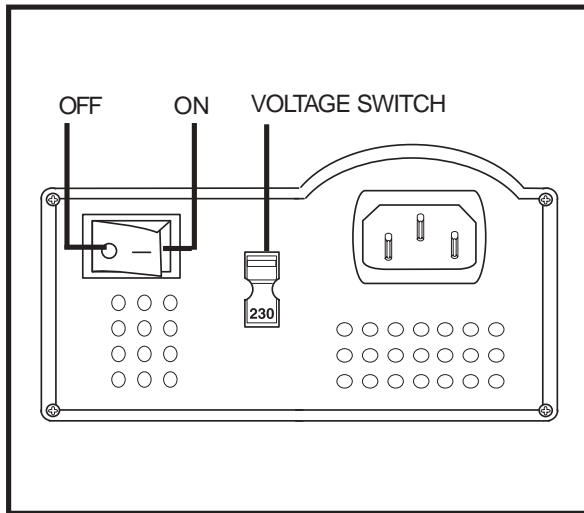

Figure 12. Charger On/Off and Voltage Switches
The off-board charger supplied with your scooter is equipped with a 115/230 voltage switch. Confirm that this switch is in the proper position for your locality. If you are not sure what the voltage is in your country, contact your local electricity provider before inserting the charger power lead plug into your electrical outlet. If the setting is incorrect, the charger will not function properly. Slide the voltage switch to the appropriate position. **See figure 12.**
7. Turn the charger on. **See figure 12.** We recommend that you charge the batteries for 8 to 14 hours.